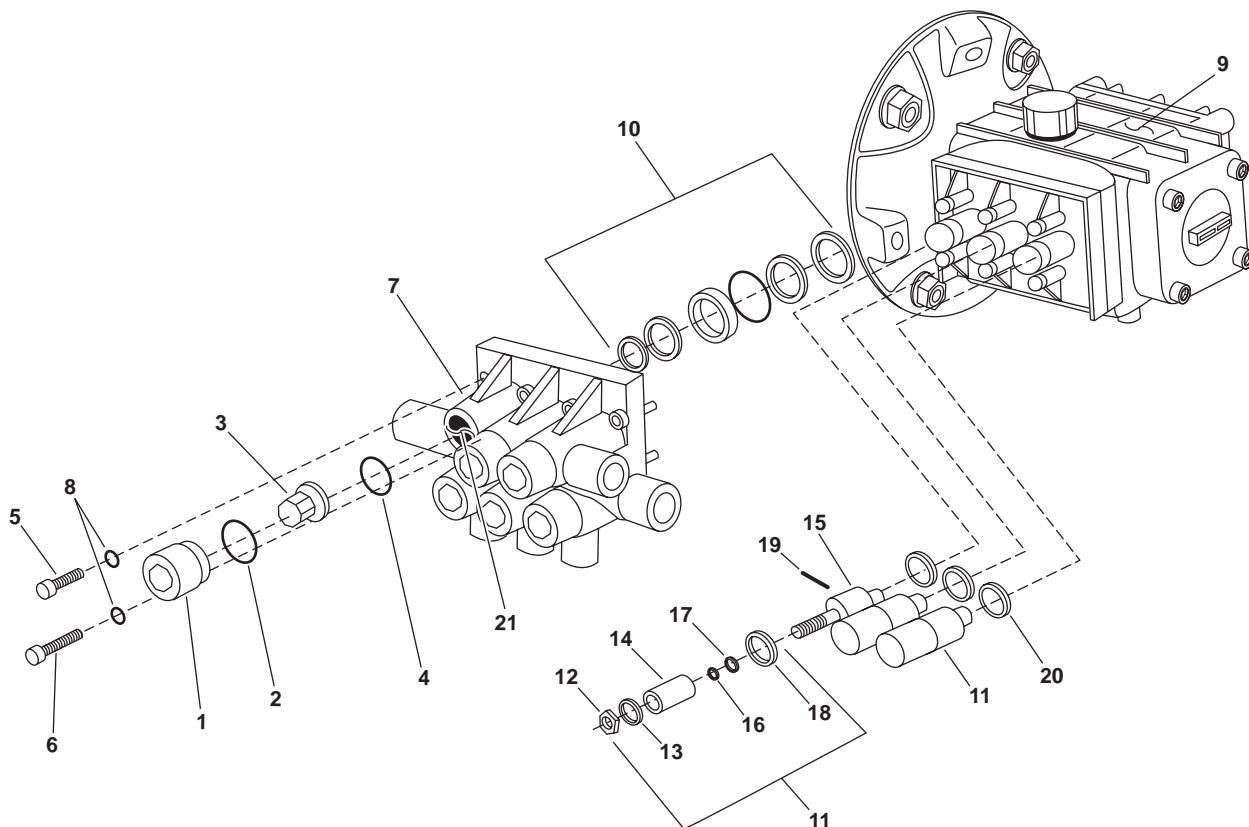

Figure 1. High Pressure Pump
1. Unscrew and remove the six valve plugs (figure 1, item 1).
2. Remove the six valve plug O-rings (figure 1, item 2) and discard.
3. Pull to remove the six valve assemblies (figure 1, item 3) and discard.
4. Remove the six valve spacer O-rings (figure 1, item 4) and discard.
5. Loosen the top four manifold screws (figure 1, item 5) ¼ turn.
6. Loosen the four bottom manifold screws (figure 1, item 6) ¼ turn.
7. Hold the manifold (figure 1, item 7) in place, remove the four bottom manifold screws (figure 1, item 6), the four top manifold screws (figure 1, item 5) and eight flat washers (figure 1, item 8).
8. Pull the manifold (figure 1, item 7) straight out to separate it from the pump crankcase (figure 1, item 9).
9. Use a slide hammer/extraction collet to remove the six seal assemblies (figure 1, item 10) from the back of the manifold (figure 1, item 7).
10. Discard the seal assemblies (figure 1, item 10).
11. Grasp and pull the three plunger assemblies (figure 1, item 11) to remove them from the crankcase (figure 1, item 9).
- a. Remove the plunger retaining nut (figure 1, item 12) and washer (figure 1, item 13).
- b. Discard the washer (figure 1, item 13).
- c. Twist the ceramic plunger (figure 1, item 14) either direction, and remove it from the plunger rod (figure 1, item 15) by pulling it straight off.
- d. Discard the plunger (figure 1, item 14).
- e. Remove and discard the plunger O-ring (figure 1, item 16) and anti-extrusion ring (figure 1, item 17).
13. Clean the slingers (figure 1, item 18), wrist pins (figure 1, item 19), and plunger rods (figure 1, item 15) with isopropyl alcohol and rags. Inspect for signs of damage and wear, and set aside.
14. Clean the three plunger bores (figure 1, item 20) inside the crankcase (figure 1, item 9) with rags and isopropyl alcohol, and inspect for signs of rust and damage.
15. Clean the six valve oil seal cavities (figure 1, item 21) inside the manifold (figure 1, item 7) with isopropyl alcohol and rags, and inspect for damage, erosion, or etching.
- a. Install the new anti-extrusion ring (figure 1, item 17) on the plunger rod (figure 1, item 15).
- b. Lubricate the new plunger O-ring (figure 1, item 16) with silicone lubricant, and install it on the plunger rod (figure 1, item 15).